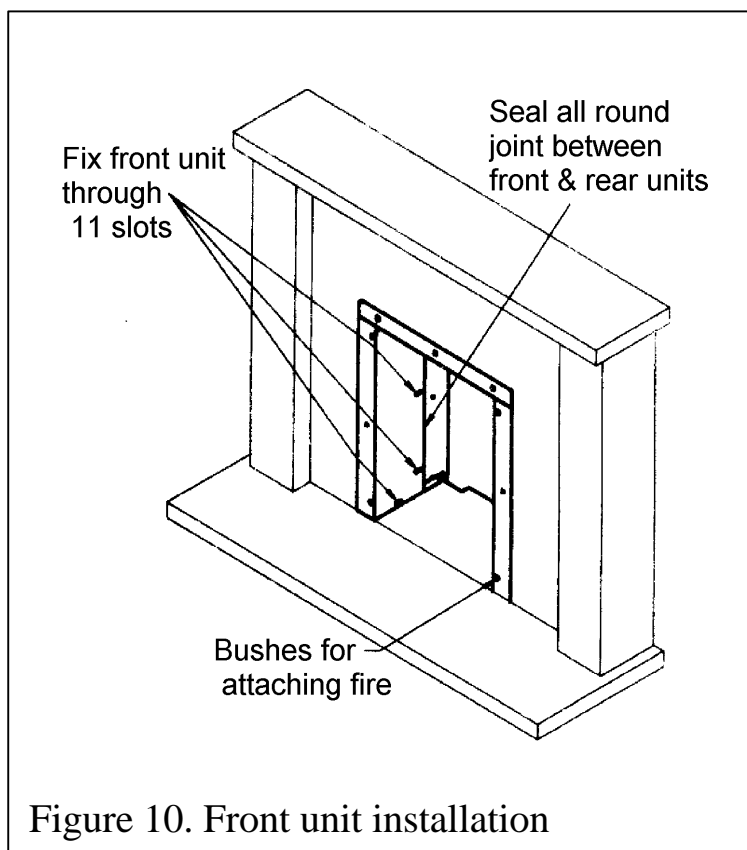

Figure 10. Front unit installation
10. Make sure that the front spacer unit is pushed fully against the front face of the surround. Fix the front unit to the rear unit and floor panel from the inside with eleven self tapping screws (See figure 10).
11. Seal all round the inside joint between the front and rear spacer units with aluminium tape. ***Do not seal the front unit to the surround with tape.*** Sealing here is not necessary and any tape may be visible round the installed appliance (See figure 10).